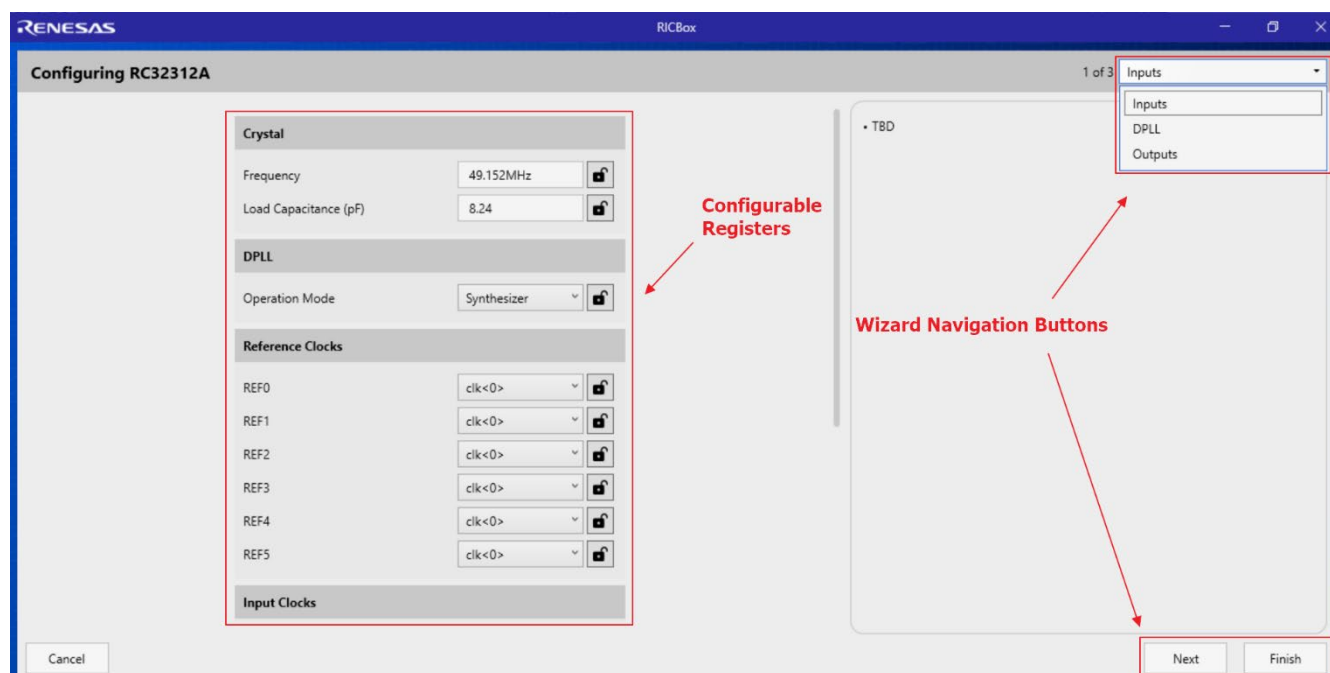

Figure 25. RICOBox Wizard Navigation
- Follow the on-screen wizard (see Figure 25) to configure the device for general evaluation starting from “Inputs”, then “DPLL”, and finally “Outputs”.